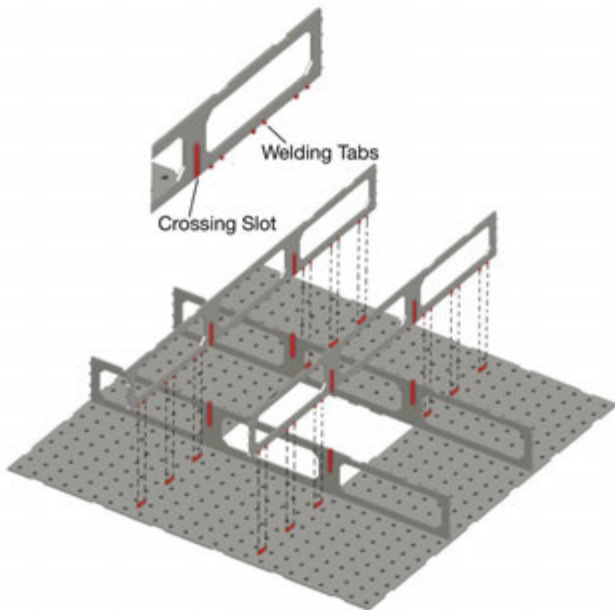

Figure 5-2
2. Install the remaining two support frames (item #5) as shown in Figure 5-2. NOTE: Make sure to use the two support frames where the crossing slot openings are on the same side of the support frame as the welding tabs (see Figure 5-2). Intersect the previous two support frames using the crossing slots. Insert the support frame welding tabs into the welding slots on the table top.